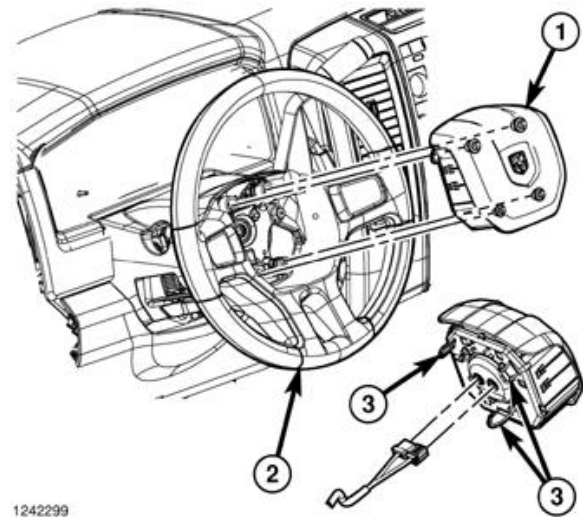

Figure 4 – Airbag Removal
9. Push the handle of the tool downward for the blade to pry the snap retainer wire loop (3) upward far enough to disengage the loop from the hook of the steering wheel armature. At the same time, gently pull the DAB (1) away from the steering wheel (2) to prevent the retainer from snapping back into place over the hook once it is disengaged (Figure 4).
18. Carefully position the DAB (1) into the hub cavity of the steering wheel (2). Be certain that the clockspring pigtail wires and the steering wheel wire harness are not pinched between the DAB and the horn switch, the steering wheel armature or, on vehicles equipped with a diesel engine, the steering wheel damper weight (Figure 4).
19. Engage the lower airbag snap retainer wire loop (3) onto the lower hook of the steering wheel armature. The lower snap retainer wire loop has a distinctive V-shape and must always be installed onto the six o'clock hook of the steering wheel armature (Figure 4).